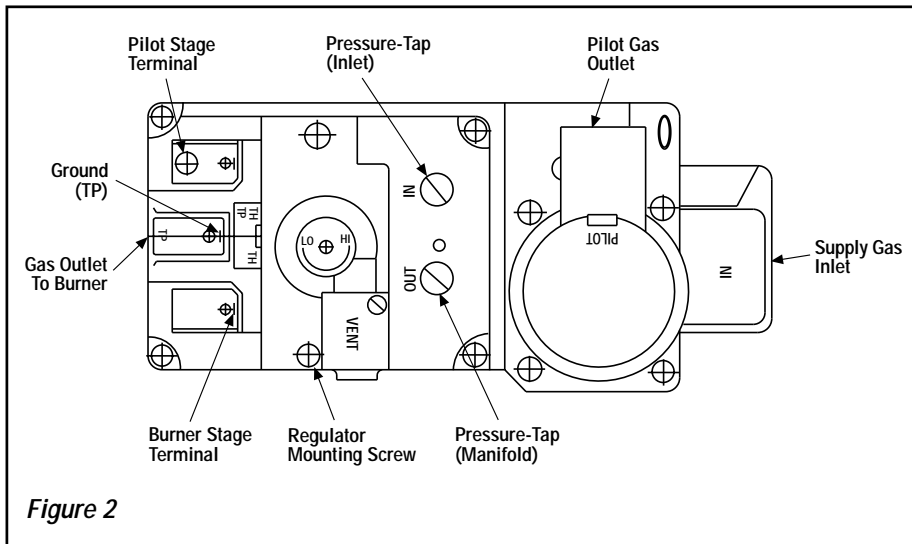

Figure 2
Step 4. DEXEN Electronic Valves - See *Figure 2* and the instructions provided with the kit. Remove and discard the two pressure regulator mounting screws. Remove the pressure regulator and diaphragm. Discard all removed components. Ensure the provided diaphragm is installed properly onto the replacement pressure regulator and install the new pressure regulator using the new screws supplied with the kit. Tighten screws.